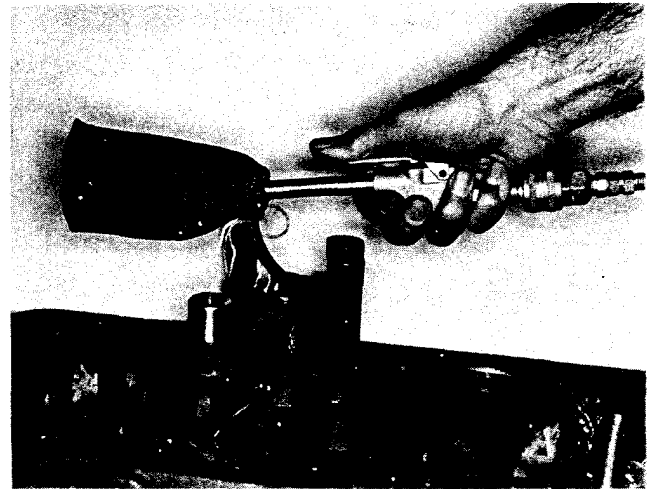

Fig. 1-26, (N101123) Removing shavings
3. Remove tapered locator. Install special reamer (6) in pilot bushing.
4. Install flex-drive adapter (8) into heavy duty 1/2 or 5/8 inch electric drill.
5. Ream hole until reamer "bottoms out". Remove reamer and remove shavings with special shaving remover (11) gun. Fig. 1-26.
9. Remove tap, clean all shavings from hole. Fig. 1-26. Reinstall tap to 1/8 to 1/4 inch [3.175 to 6.35 mm] from bottom. Tap remainder of depth, with tap handle or suitable wrench until stop collar bottoms out.